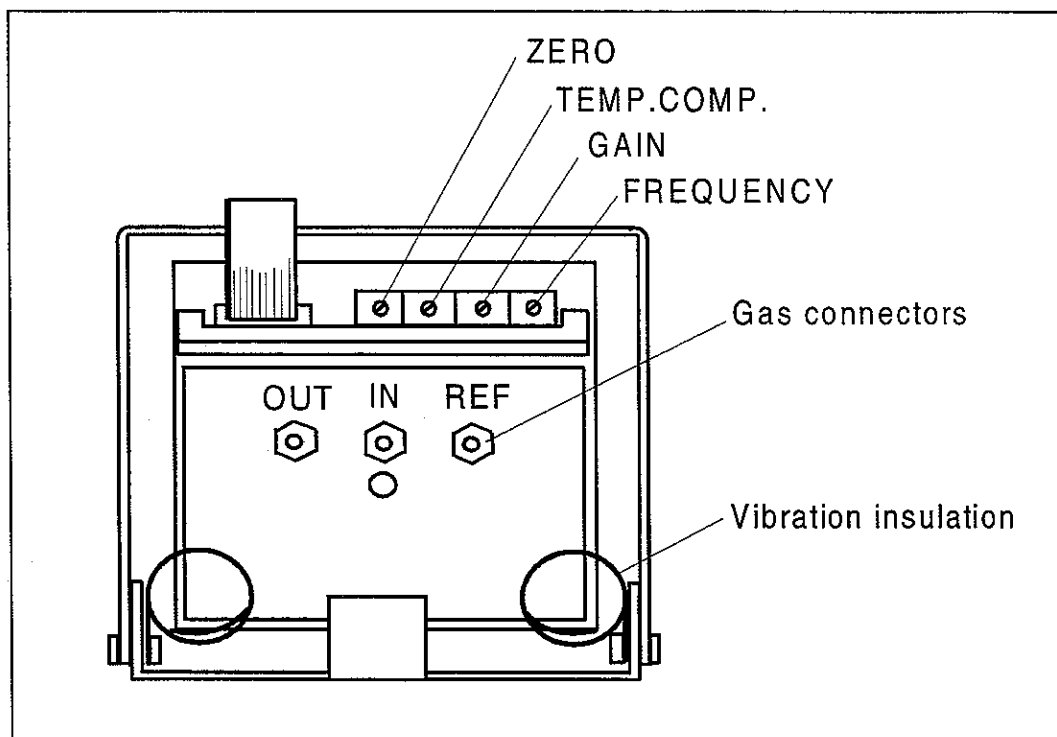

Figure 15 O₂ Measuring Unit Adjustments
- b) Let the monitor draw in room air and adjust the voltage to zero with the O₂ measuring unit trim resistor designated 'ZERO' (see Figure 15) in the O₂ module PC board. The potentiometers are located at the same side of the measuring unit as the tubing connectors.
- b) Sample 100 % oxygen and adjust the measuring unit output to between 7.7 V and 8.3 V with the trim resistor designated 'GAIN' (see Figure 15). If the output will not exceed 7.7V, it is acceptable that the output exceeds at least 5 V. At that level software is still able to compensate the output.